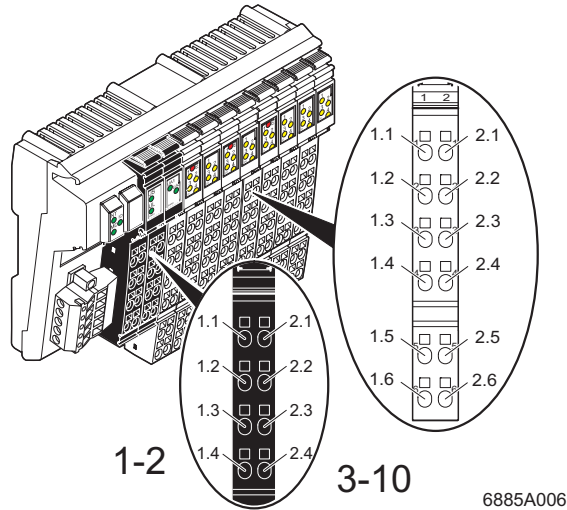

Figure 6 Terminal point assignment of Inline connectors
Terminal Point Assignment of Power Connectors (Connectors 1 and 2 in Figure 6)
**Terminal Point Assignment of Output Connectors (Connectors 3 to 6 in Figure 6 on page 11)**
**Terminal Point Assignment of Input Connectors (Connectors 7 to 10 in Figure 6 on page 11)**
The connection options at Inline connectors 1 and 2 are designed for test purposes only (see "Terminal Point Assignment of Power Connectors (Connectors 1 and 2 in Figure 6)" on page 11).